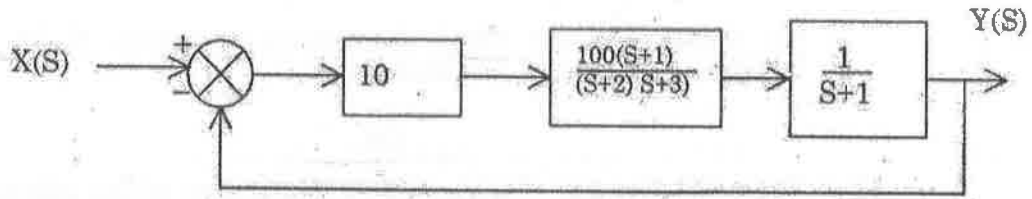

Fig. 4
12. (a) (i) For the system shown in figure 4. find the error using dynamic error coefficient method for input $r(t) = 5 + 4t + 7t^2$.